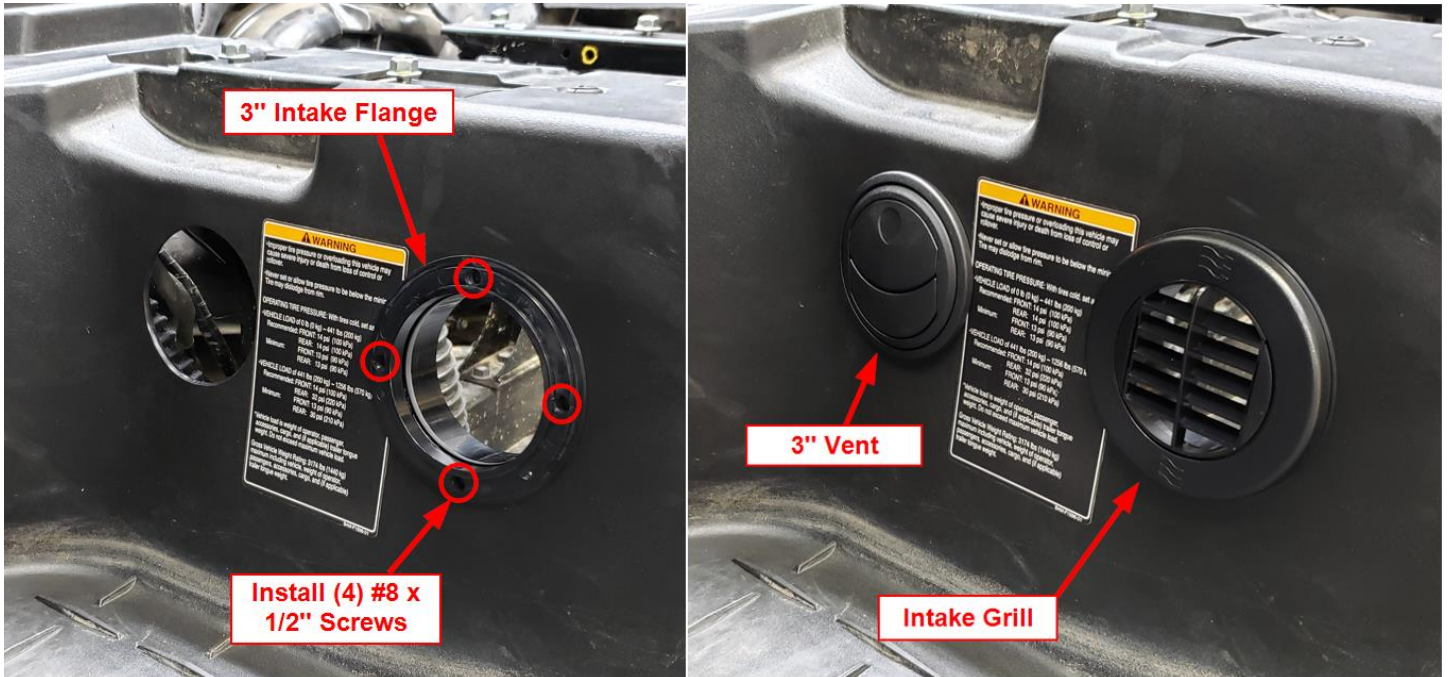

Figure 18
- a. Insert the Air Intake Flange through the 3" hole drilled under the driver seat as shown in Figure 18. Install four of the #8 x 1/2" screws to secure the flange. Press the Intake Cover on to the flange until it snaps into place as shown in Figure 18.
- b. Insert the 3" vent in the hole drilled under the driver seat as shown in Figure 18.